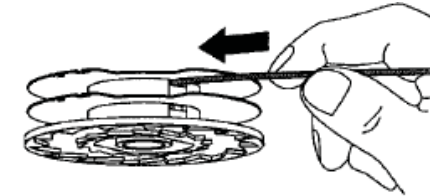

Fig. 16
- Insert one line into each of the two slots on the spool (Fig. 16).